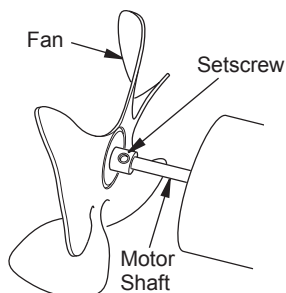

Figure 8 - Fan, Motor Shaft, and Setscrew Location
4. Replace fan on motor shaft. Make sure setscrew is touching back of flat surface on motor shaft (see Figure 8).